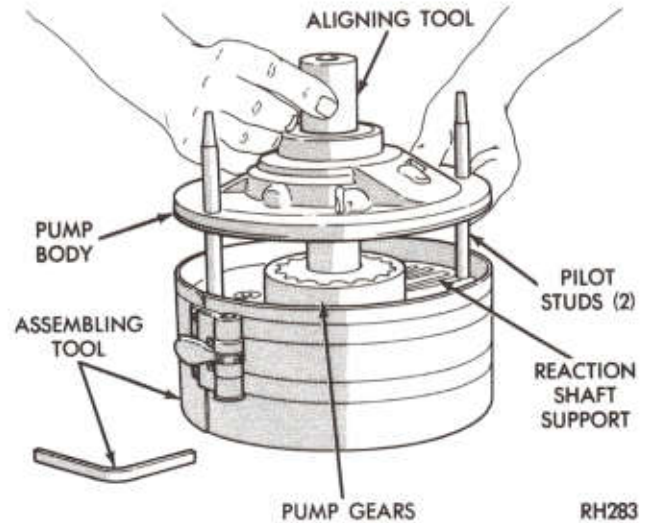

Fig. 13—Assemble Pump and Reaction Shaft Support (A-904T and A-999)
(1) Place reaction shaft support in assembling Tool C-3759, with hub of support and tool resting on a smooth, flat surface bench (Fig. 13). Screw two pilot studs Tool C-3283A into threaded holes of reaction shaft support flange.
(2) Assemble and place pump gears in center of the support.
(3) Lower pump body over the pilot studs, insert Tool C-3756 through pump body and engage pump inner gear. Rotate the pump gears with tool to center gears in pump body, then with pump body firm against reaction shaft support, tighten clamping tool